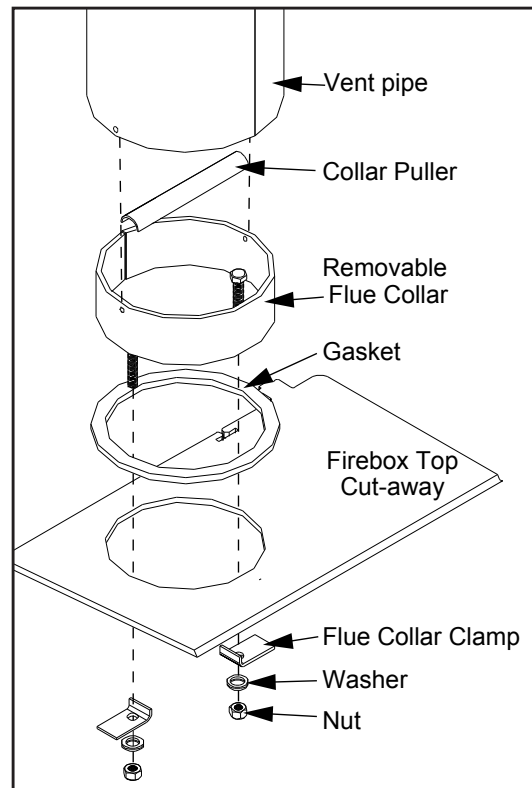
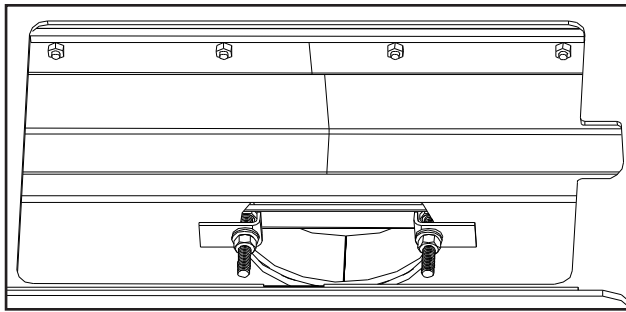

Figure 14: Attaching removable flue collar.
Figure 15: Removable flue collar in place.
- a) Remove the rear two (2) secondary air tube and C-Cast Ceramic Baffles, if installed (see C-CAST CERAMIC BAFFLE INSTALLATION). Remove the secondary air tubes by placing a screwdriver (any style except flat head) into one of the air holes and tapping it with a hammer/mallet to the left.
- b) Unscrew the two (2) nuts on top of the inside of the firebox, using a $\frac{9}{16}$ " wrench or socket (see Figure 14). The Flue Collar Clamps will slide off the bolts.
- f) Place the Collar Puller, over the two bolts of the Flue Collar and pull it into place (see Figure 14). Ensure that the bolts are to the left and right of the hole. If they are not, the front secondary air tube will need to be removed in order to install or remove the C-Cast Ceramic Baffles.
- h) Re-install C-Cast Ceramic Baffles and the rear two (2) secondary air tube (see C-CAST CERAMIC BAFFLE INSTALLATION).
- 3.** There are four (4) leveling legs (shown in Figure 15), two (2) on each side, one at the back and one at the front of the unit. Adjust the legs using a $\frac{3}{8}$ " wrench to ensure the unit is stable.